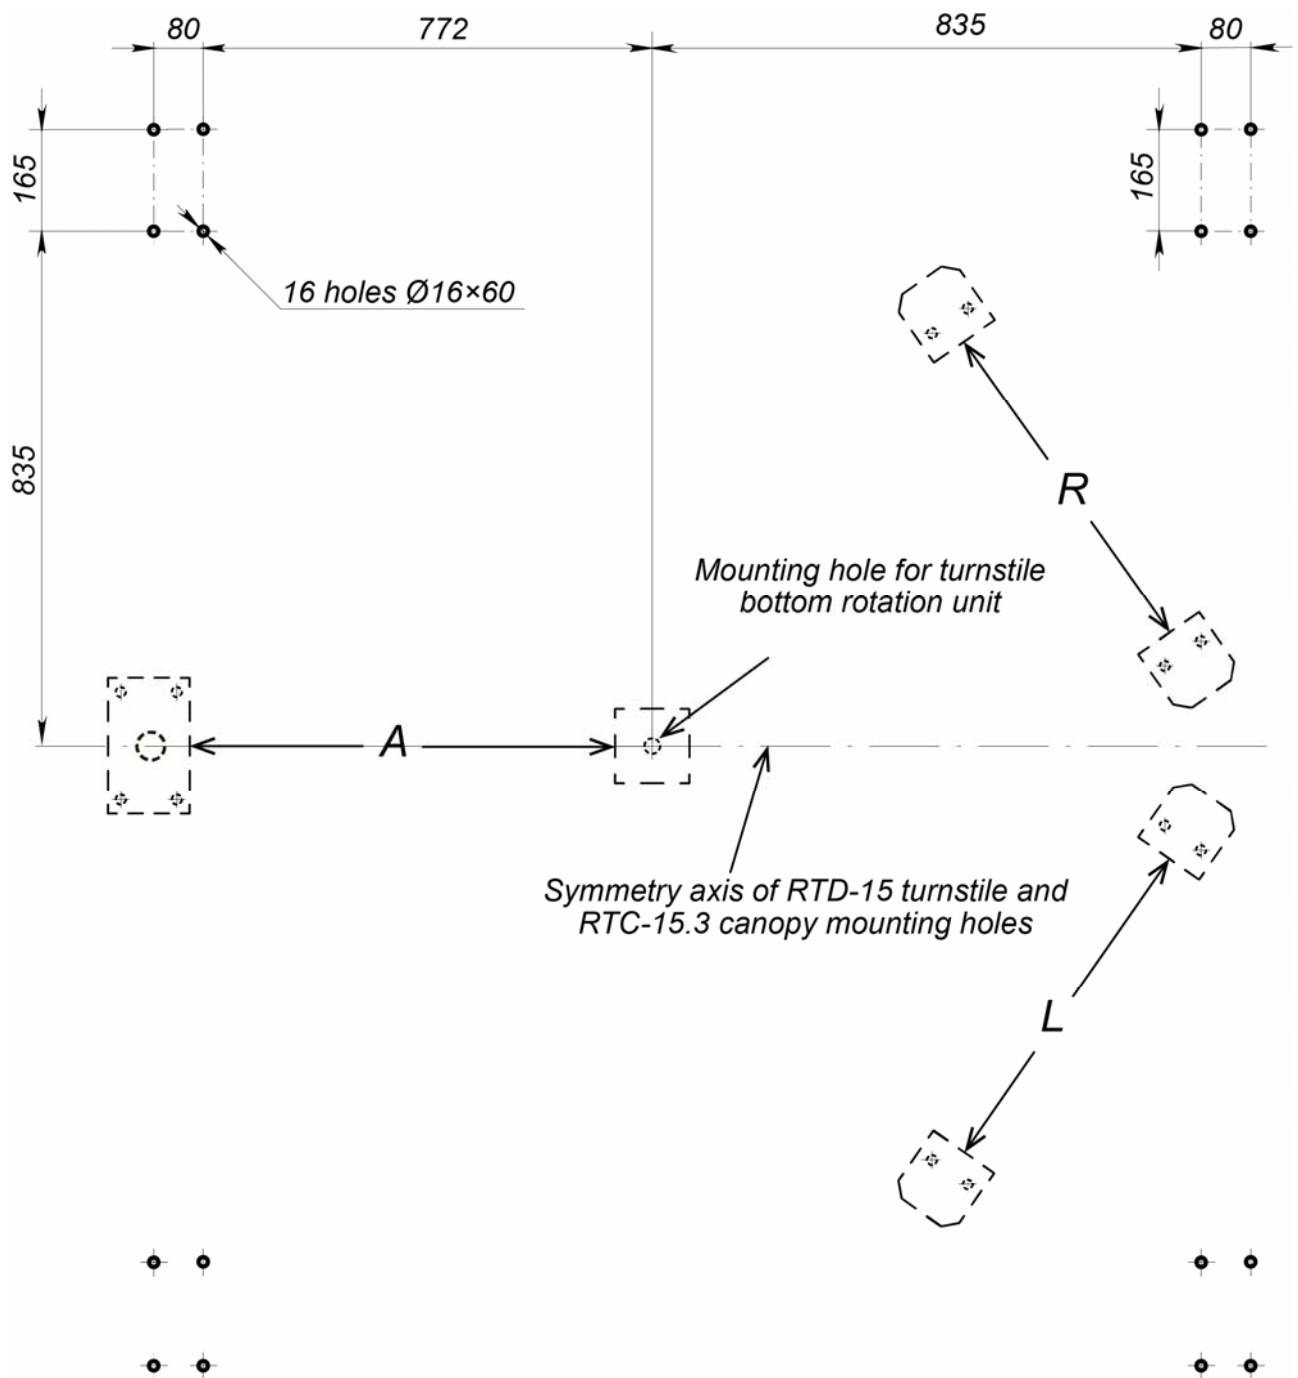

Figure 4. Hole pattern for mounting of the canopy posts (3) relative to the turnstile mounting holes:
2. Mark out the mounting holes for installation of the posts (3) according to Fig. 4. Carry out the marking together with that for turnstile mounting holes given in the Operational Manual to the **RTD-15** Full Height Rotor Turnstile. Symmetry axis of turnstile and canopy mounting holes geometrically coincide (Figure 4).
Figure 4 shows a sketch layout of the turnstile mounting holes. Exact coordinates of the holes in A, L and R mounting points are given in the *Operational Manual to the RTD-15 Full Height Rotor Turnstile*.